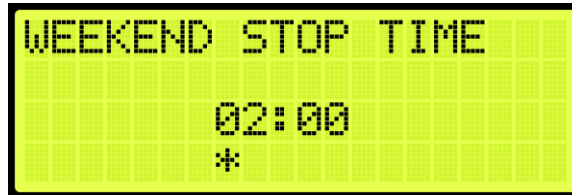

Figure 174: WEEKEND STOP TIME Menu
20. From the WEEKEND STOP TIME menu, set the stop time of the hall call security (See Figure 174).